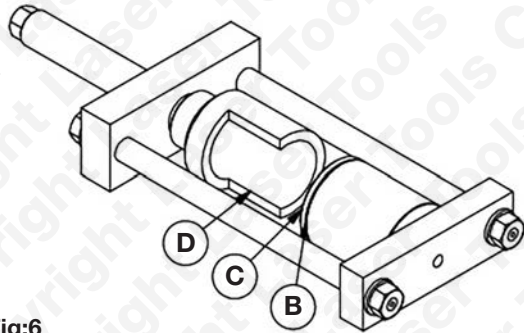
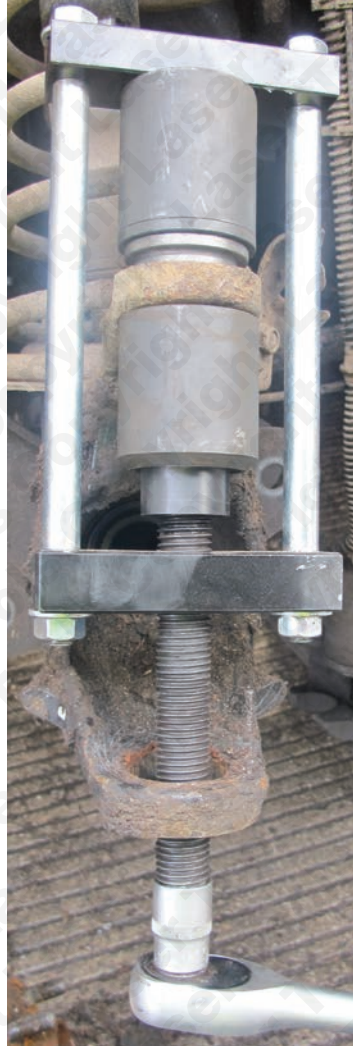

Fig:6
Fig:7
- Starting with the top joint assemble the tool as shown in **Fig:6** and **Fig:7**